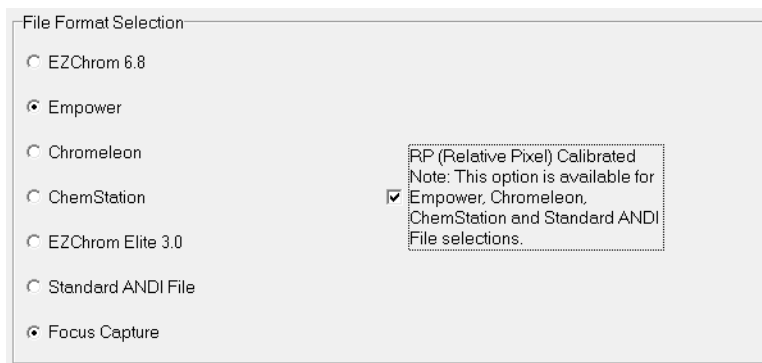

Figure 7-18: Selecting Relative Pixel Calibration, iCE CFR software version 4.0.
5. Optional. You can choose to convert only the RP Calibrated files. To do this select the **RP (Relative Pixel) Calibrated** checkbox (Figure 7-18).